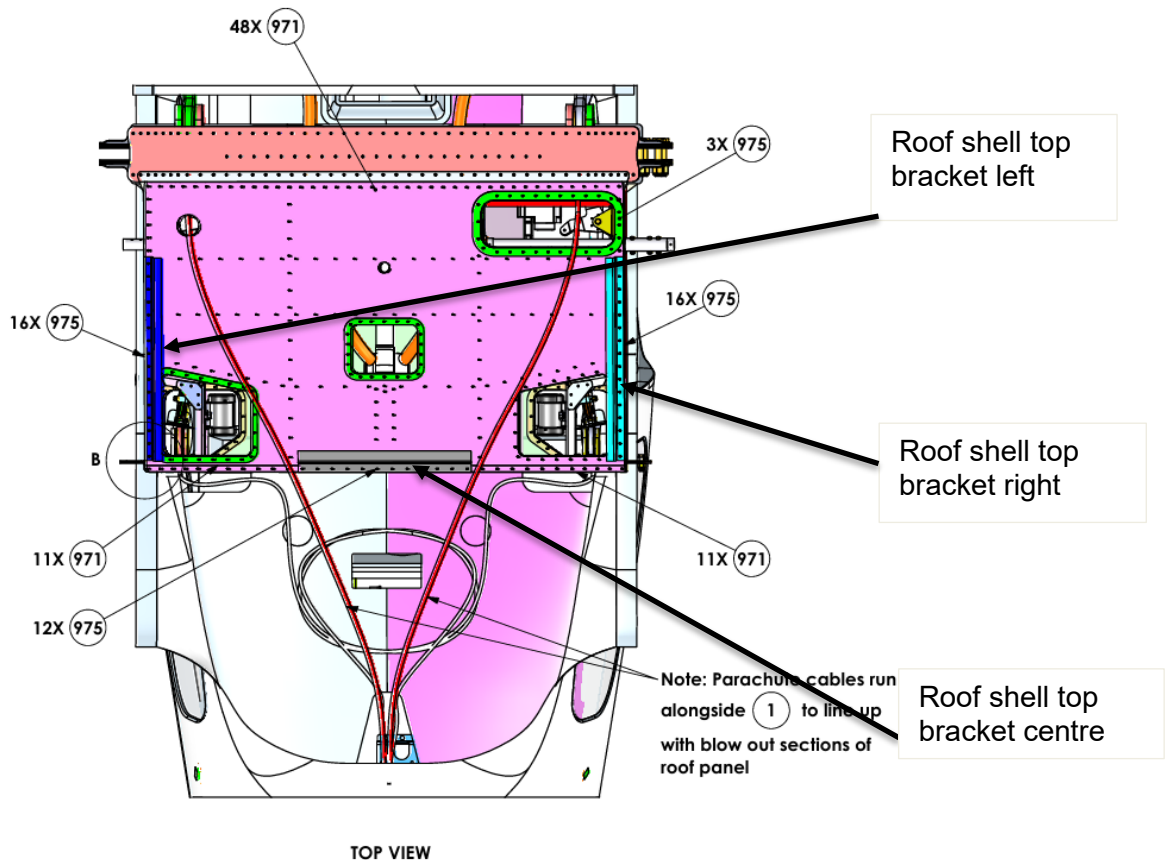

Figure 12: The shell roof brackets installed.
Step 2: Rivet the top brackets on the Top skin on highlighted locations in Figure 12.